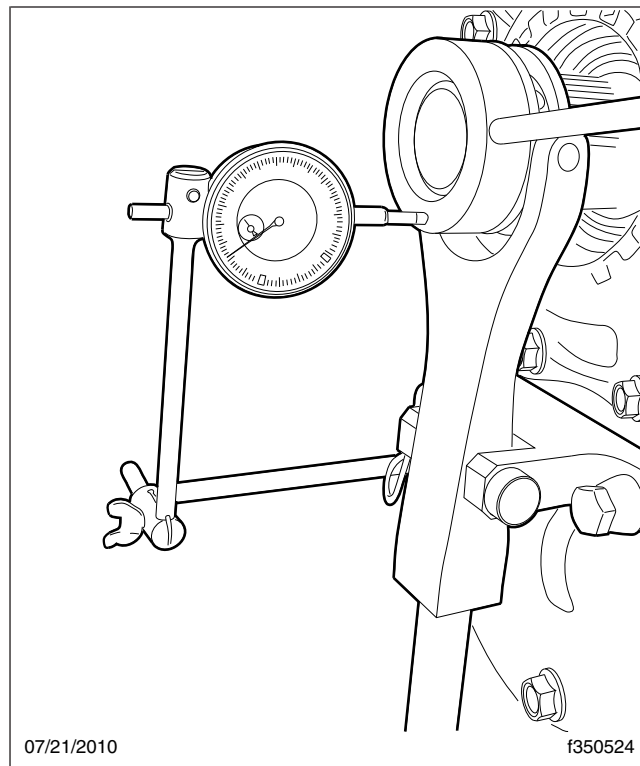

Fig. 13, Dial Indicator and Push-Pull Device
- 33.1 Set up a dial indicator as shown in Fig. 13.